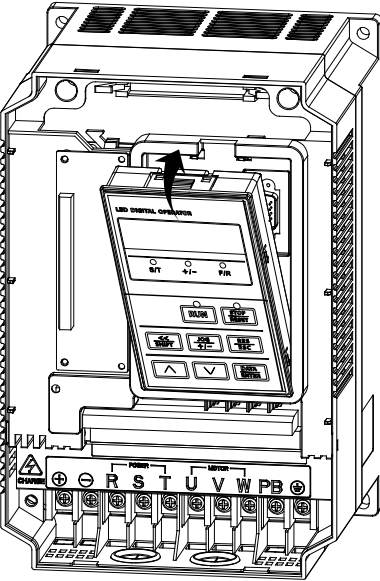

Figure 2-5 Assemble the Keypad
- Assemble the keypad: Place the bottom of keypad in the slot and then press the top to push until it clicks into right place. See Figure 2-5.